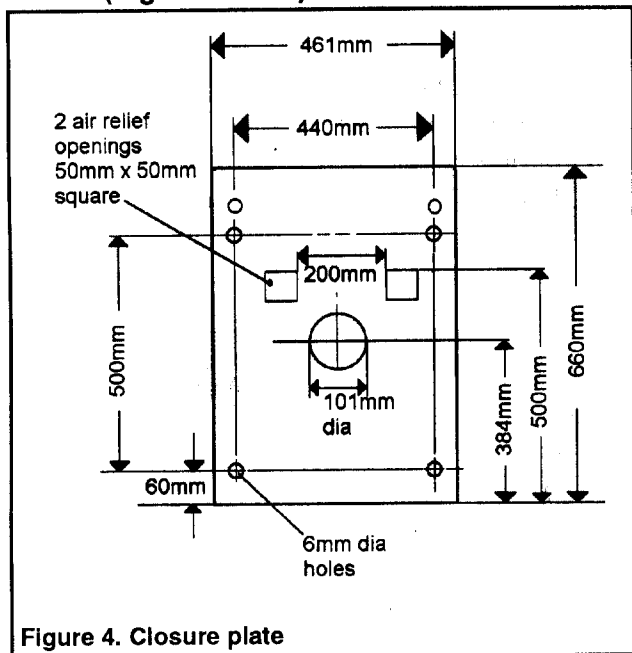

Figure 4. Closure plate
3.4. FITTING THE CLOSURE PLATE (Figures 4 & 5)